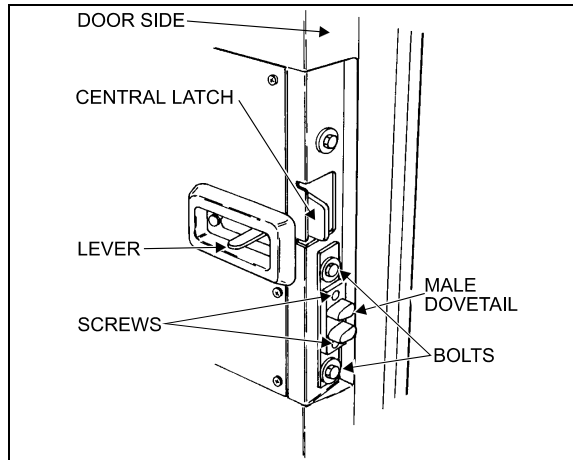

FIGURE 19: DOOR LATCH (COACH)
2. Remove the Allen button head screw and the washer retaining the rod end with bearing to the upper hinge. See figure 19.
3. Remove the Allen button head screw and the washer retaining the ball and socket rod to the upper hinge. See figure 19.
- Remove the Allen button head screw and the washer retaining the rod end with bearing to upper hinge. See figure 19.